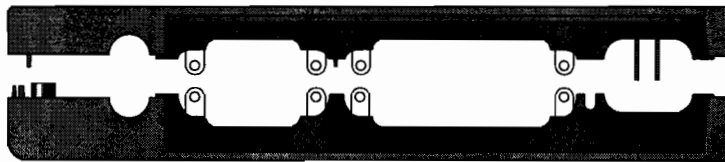
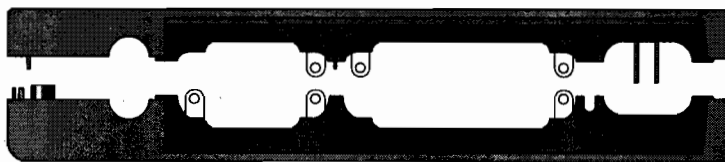
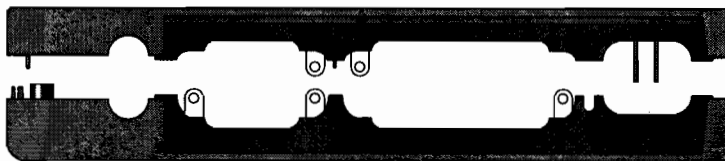
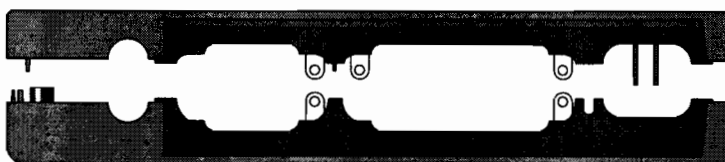

Figure 19 - I/O Port Eyelets (all present)
Figure 20 - I/O Port Eyelets (two matched sets)
Figure 21 - I/O Port Eyelets (only one matched set)
Figure 22 - I/O Port Eyelets (no eyelet in position one)
7. With the display cable reconnected, the I/O grounding eyelets must be slid into place. **Use caution when positioning the I/O grounding eyelets as they can be broken off easily.** It is acceptable to reassemble the OmniBook with certain I/O grounding eyelets broken if there is **at least one eyelet in each of the four positions AND at least two matched sets remaining.** See Figure 19, Figure 20, Figure 21, and Figure 22 for examples.